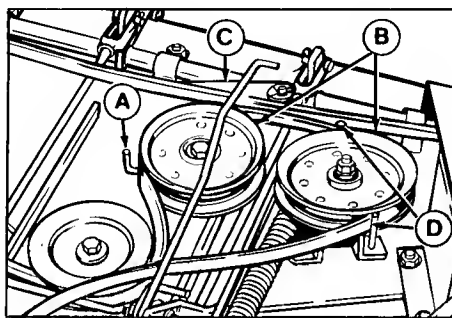

Figure 35. Mower Belt Stops
Right Idler Pulley Belt Stop. Make sure the long side of the right belt stop (A, figure 35) is inserted in idler pivot bracket slot (C). There is no adjustment.